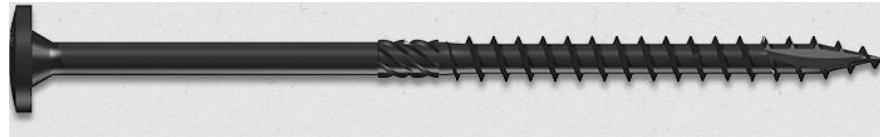

Figure 5: Jamb Screw
a) Screws must be a 1/4" in shaft size and have a rounded head (cabinet screw, truss, or rounded head screw, etc.) as shown below in *figure 5*.